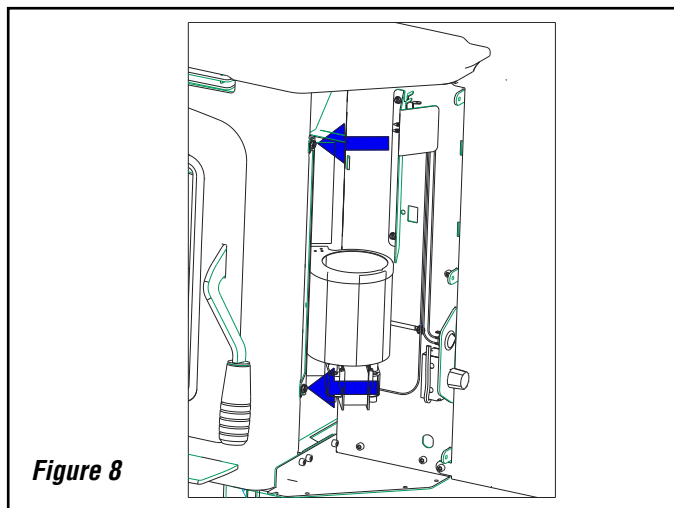

Figure 8
Step 9. Tighten the two 5/16" screws onto the new blower bracket and reconnect the new blower. (Note, there is no green ring connector) See **Figure 8**.